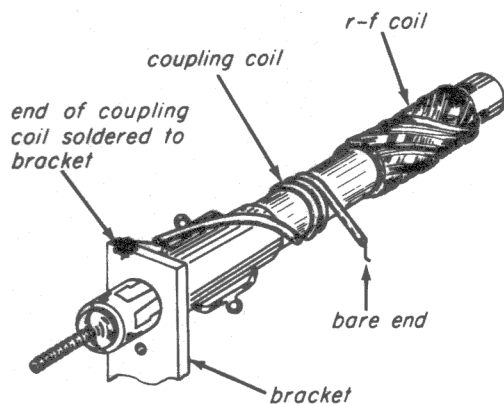

Fig. 32-5
Step 2. Solder one end of this wire to the top of the antenna-coil mounting bracket as shown in Fig. 32-5.
Step 3. As shown in Fig. 32-5, wind the wire around the antenna coil form to make a 3-turn coil. The free end of the wire, which is bare, will serve as an r-f input terminal to which your signal generator output cable or a long wire antenna can be attached.